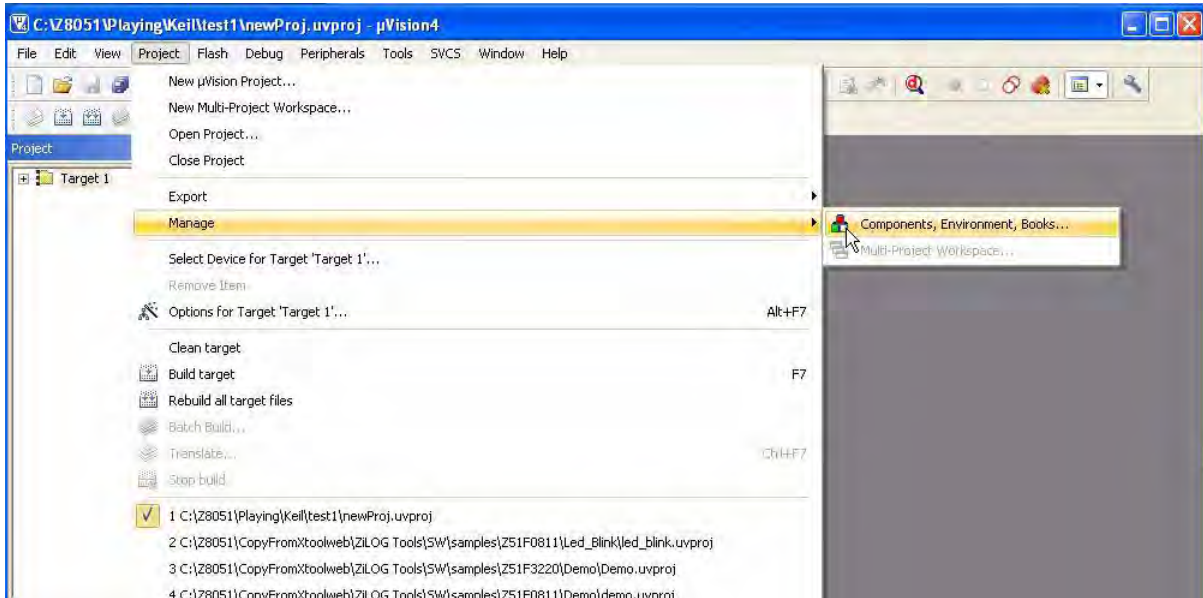

Figure 14. Adding An Existing File To The Project
4. To add a source code file that already exists to this project, select **Project** → **Manage** → **Components, Environment, Books**, as indicated in Figure 14.